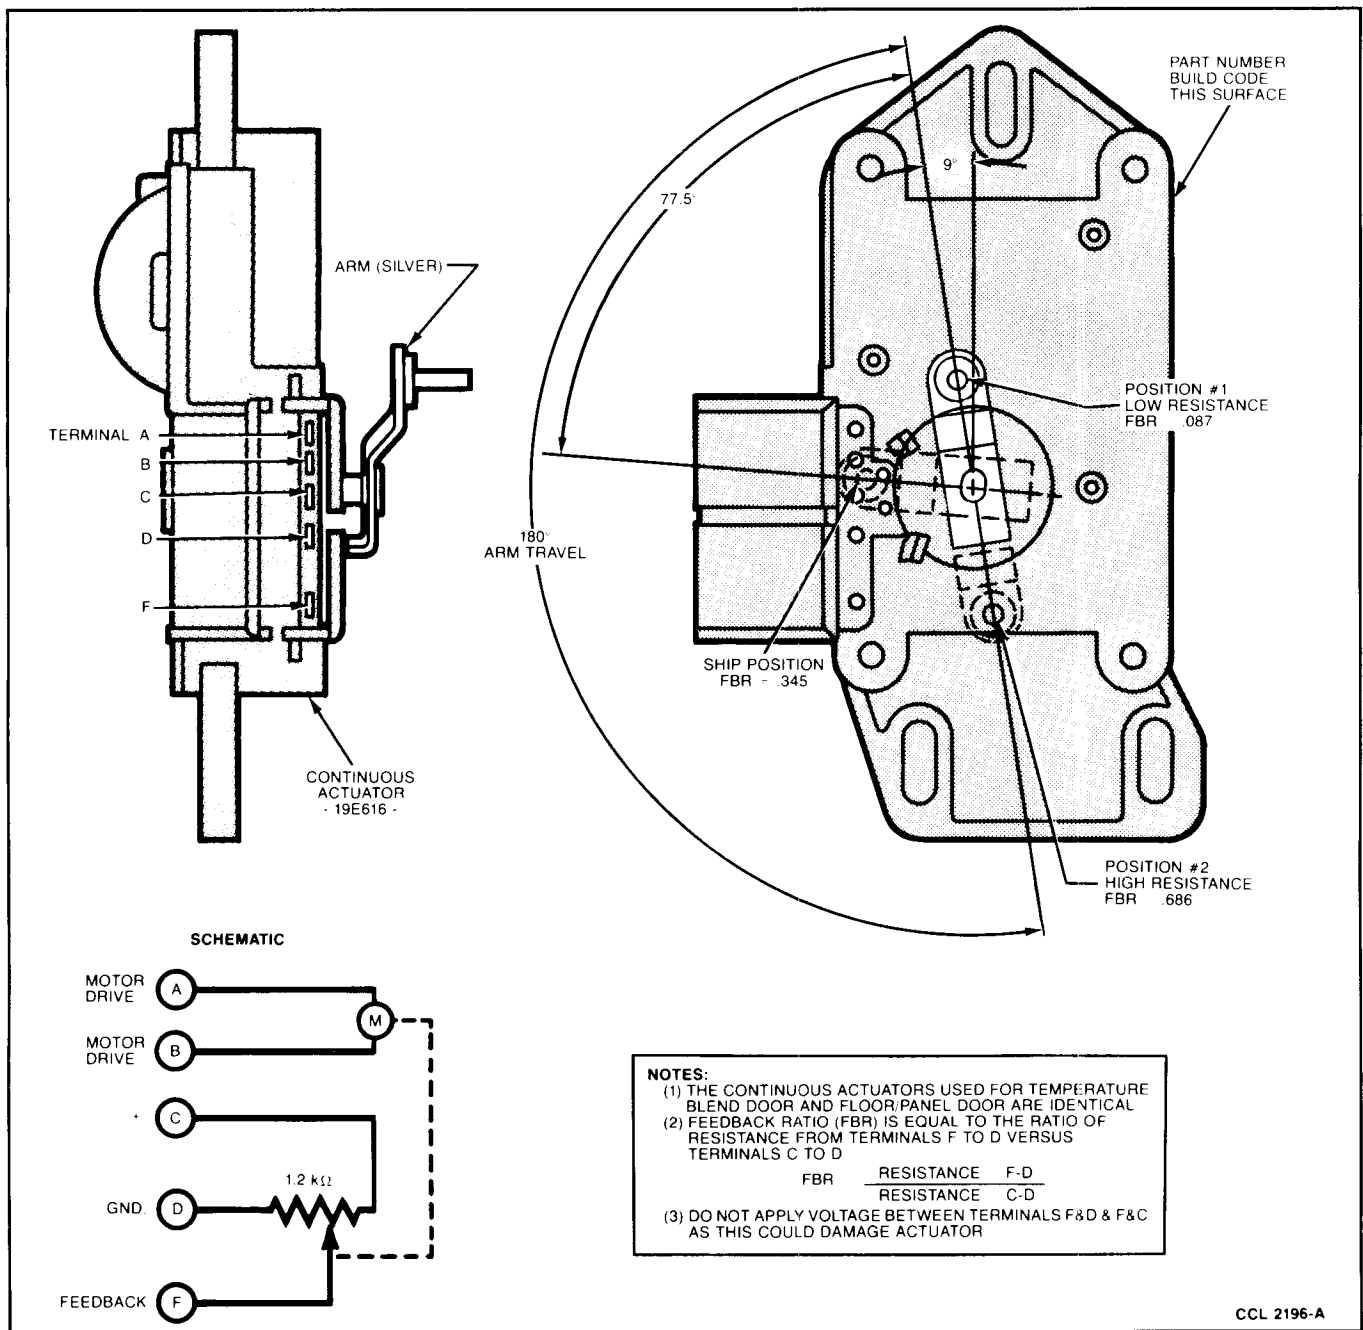

FIG. 9 Continuous Position Actuator—Temperature Blend and Floor/Panel
- **Continuous Position Actuators (Fig. 9):** The continuous position actuators operate the blend door and the floor/panel mode door. These actuators are identical and therefore completely interchangeable, independent of function or mounting location. They operate in both the clockwise and counterclockwise directions and will stop at any position within their 180 degrees operating range as directed by the signals from the control head.